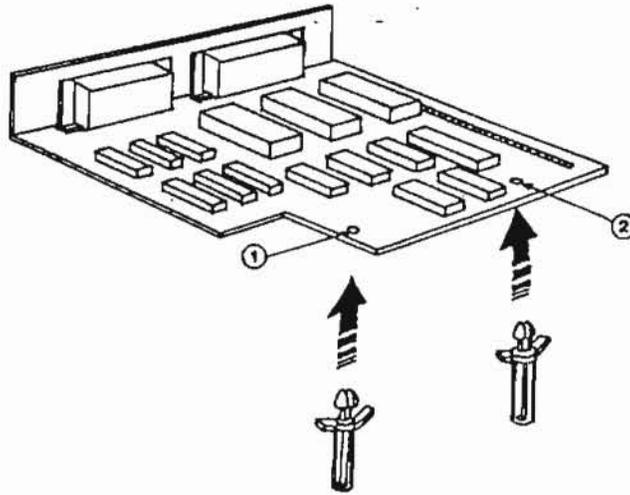

FIGURE 5
Step 7: Attach the two plastic stand-offs to the dual RS232C serial card as pictured in Figure 5.